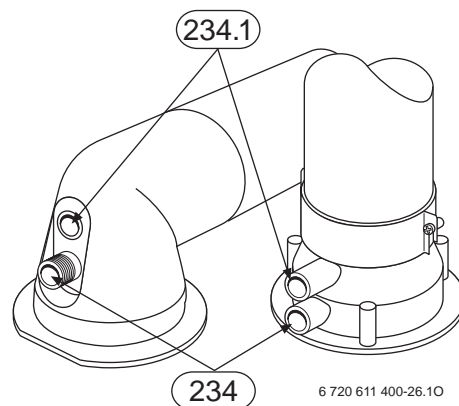

Fig. 32
- ▶ Unscrew sealing plug from flue gas testing point (234). Refer to fig. 32.